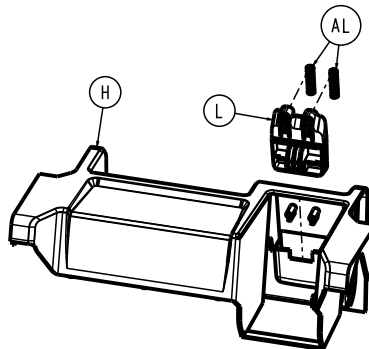

Figure 6 –
Note - The battery release button (L) and compression wires (AL) may fall out when you route the battery housing assembly from the power box upper cover (H) (Figure 6). Reinstall the battery release button and compression wires, if needed.